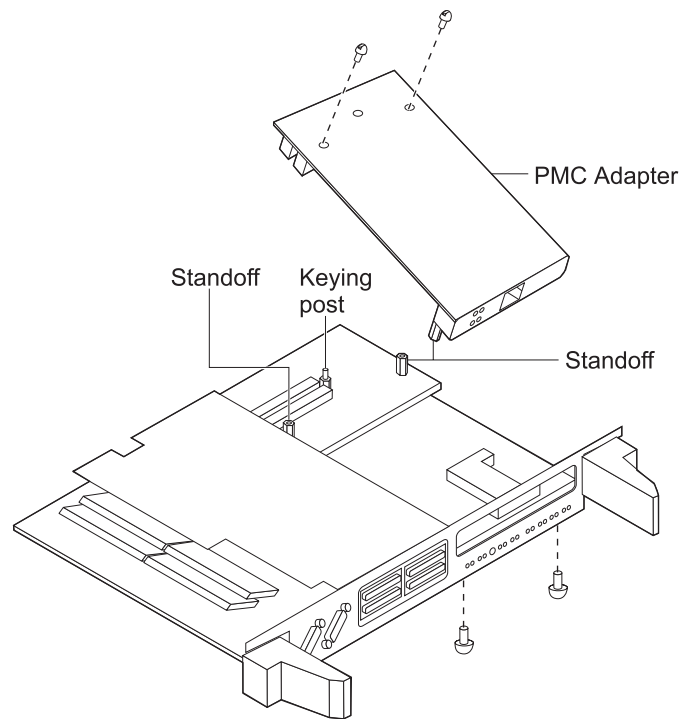

Figure 2-4. Installing a LAN PMC Adapter on a High-Performance System Card
- a. Remove the screws that attach the PMC Adapter to the PMC stand-offs. (See Figure 2-4 on page 2-8.)
**Note:** Hold the PMC Adapter at an angle, as shown in Figure 2-4 on page 2-8.
9. Insert two screws through the bottom of the system board into the PMC Adapter studs, and tighten them. (See Figure 2-4 on page 2-8.)
10. Insert two screws through the top of the PMC Adapter and tighten them. (See Figure 2-4 on page 2-8.)